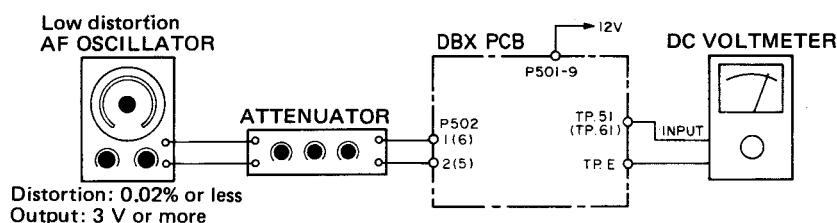

Fig. 5-14
6. Like Fig. 5-14, connect a DC voltmeter to TP51/TP61, then note the reading on the DC voltmeter with an input signal of 1 kHz/-8 dB (308 mV).
9. Check that when the input signal is 100 Hz/-8 dB (308 mV), then 10 kHz/-8 dB, the output signal from 3(4) terminal (OUTPUT) deviates by  $+0.5 \text{ dB} \pm 0.5 \text{ dB}$ , then  $-2.8 \text{ dB} \pm 0.5 \text{ dB}$  from -8 dB (reference), respectively....so that output, as a voltage value, should be 308 mV to 346 mV for 100 Hz, and 211 mV to 237 mV for 10 kHz.